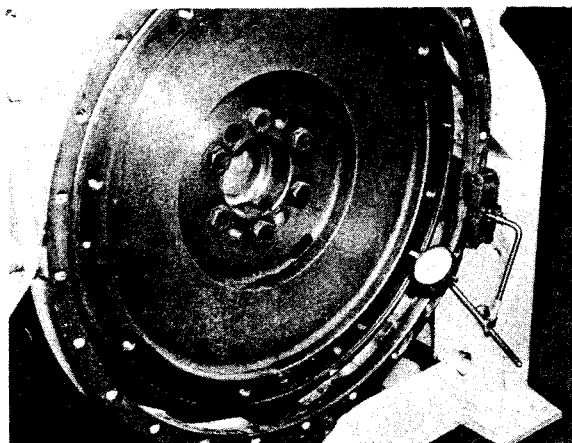

FIGURE 2-5 CHECKING ENGINE FLYWHEEL RUNOUT
6. With indicator base mounted on the flywheel housing and the indicator finger on the drive disk recess as shown in figure 2-5, turn the engine through one revolution and check runout. Maximum total indicator reading should not exceed .003 inch per each foot diameter of flywheel. Refer to Table A. If runout exceeds limits, contact KATO Engineering Company and engine manufacturer for recommendations. State flywheel size and runout recorded.